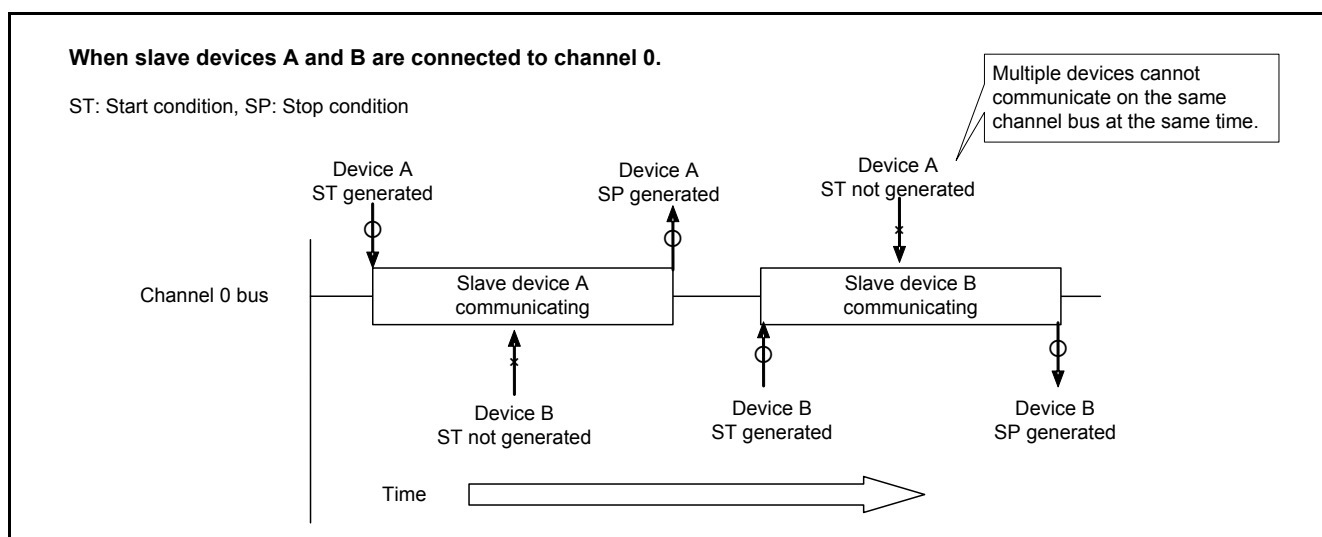

Figure 1.1 Example of Controlling Multiple Slave Devices
- Multiple slave devices on the same channel bus can be controlled. However, while communication is in progress (the period from start condition generation to stop condition generation), communication with other devices is not available. Figure 1.1 shows an Example of Controlling Multiple Slave Devices.